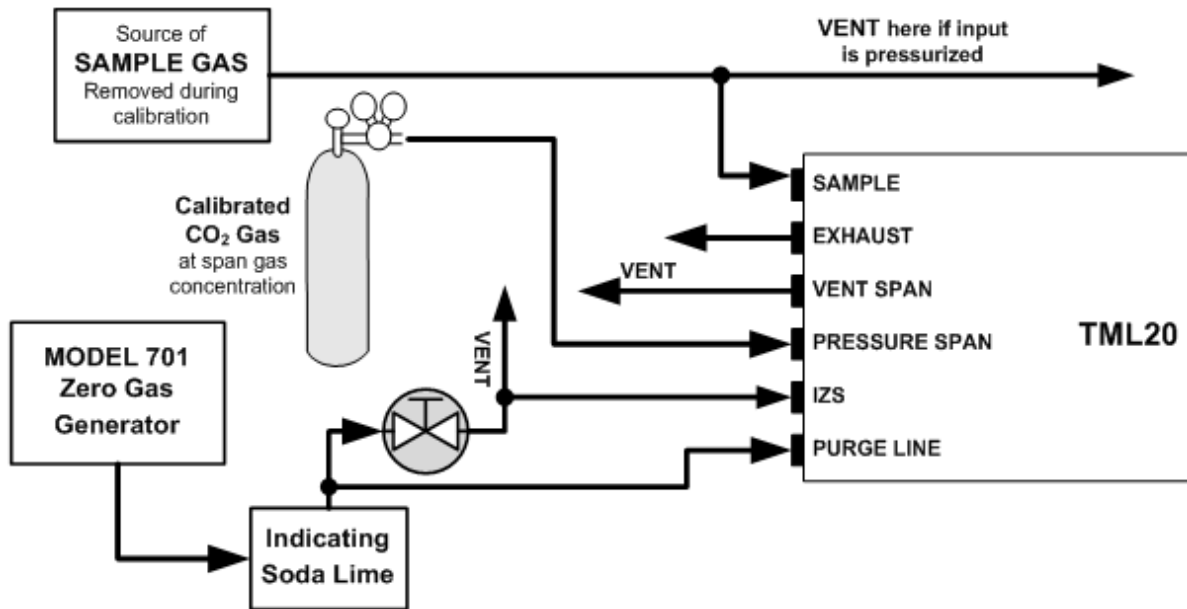

Figure 7-3: Pneumatic Connections–TML20 with Zero/Span/Shutoff Valves (OPT 50)
Figure 7-3 through Figure 7-6 show the proper pneumatic connections for TML20's with various optional internal valve sets installed.
**STEP ONE:** Connect the sources of Zero Air and Span Gas as shown in Figure 7-3 through Figure 7-6.